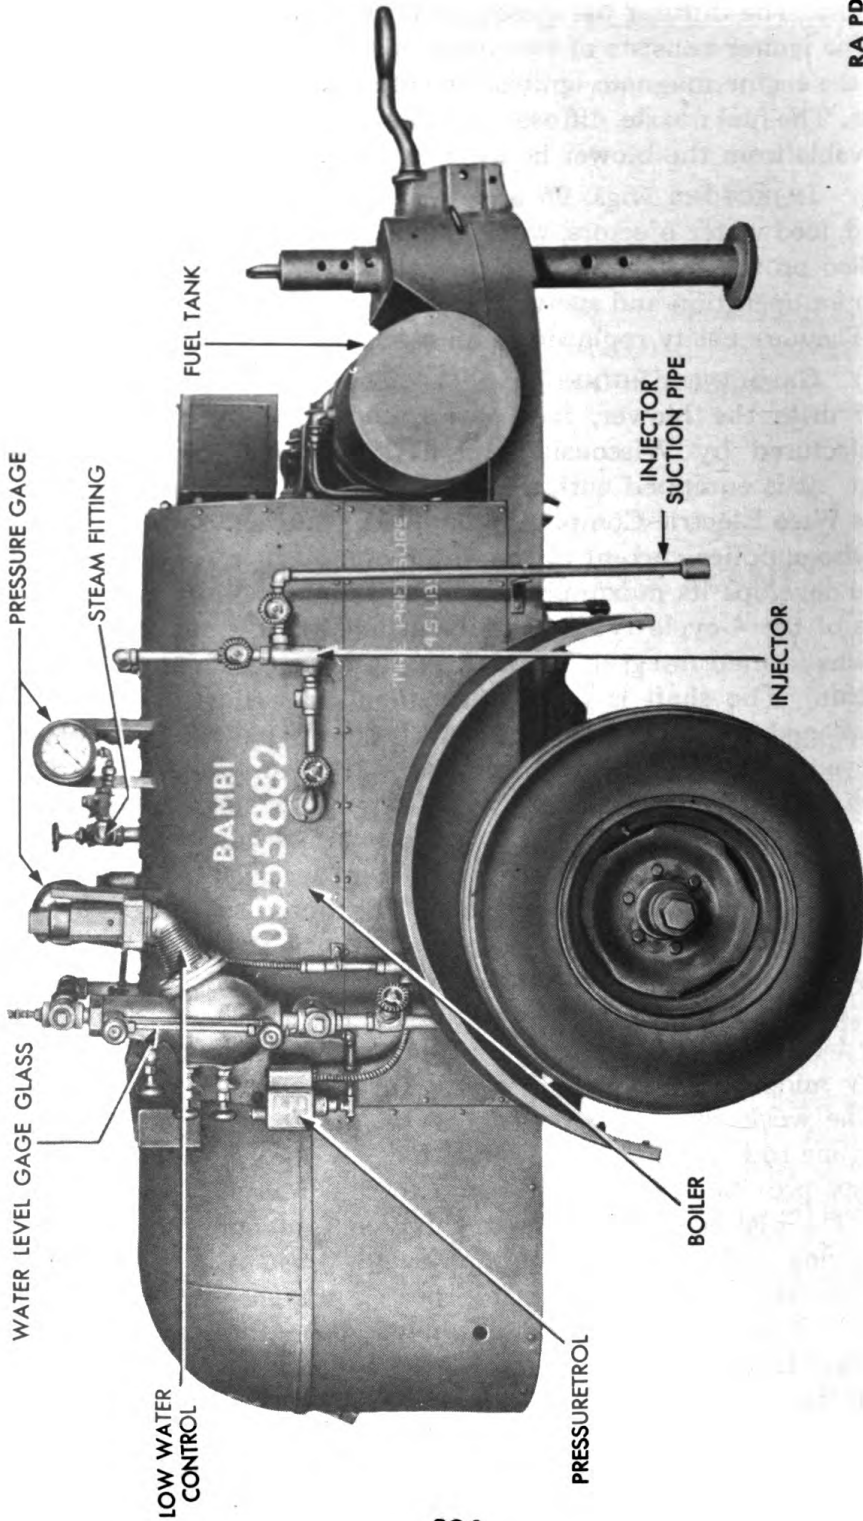
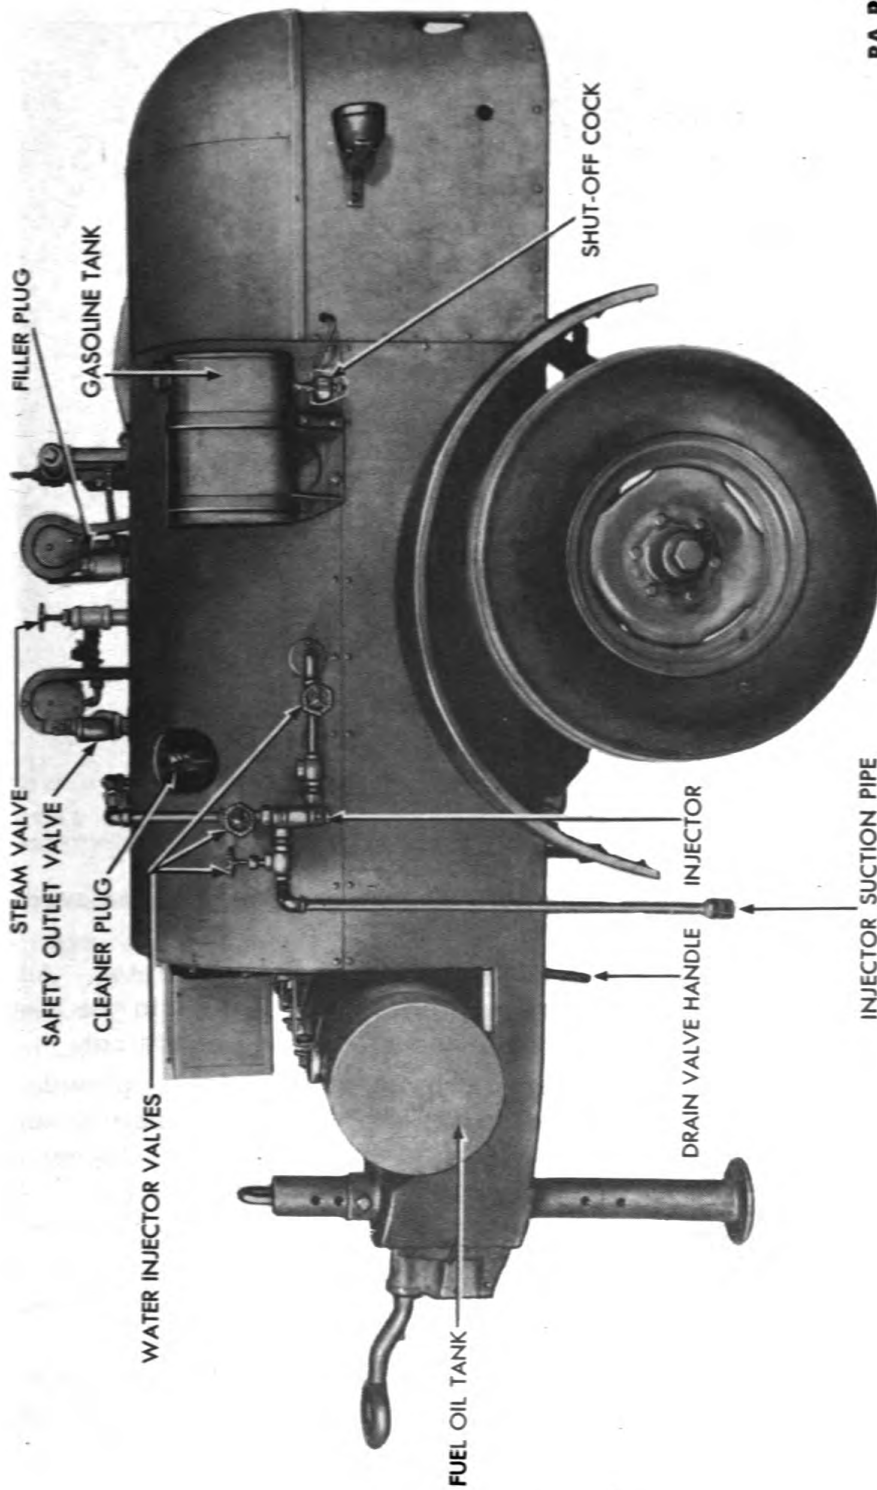

Figure 96 — Right Side of Steam Generating Plant
Figure 97 — Left Side of Steam Generating Plant
(1) **GENERAL** (figs. 96 and 97). A portable steam generating plant, type OB-1 is a part of ordnance bomb disposal company equipment. It is used to generate live steam with which to sterilize bombs. Its operation is described in the following text. This plant consists of a boiler, oil burner complete with air blower, fuel pump, dual water injectors, automatic ignition, fuel tank, tool compartment, piping, gages, engine, and control instruments. This equipment is mounted on a rubber-tired, low-center-of-gravity, two-wheeled trailer. The trailer is equipped with semielliptical springs and an adjustable steel, stiff-leg support for stationary operation. A description of the plant follows:
(4) **INJECTORS** (figs. 96 and 97). Two $\frac{1}{2}$ -inch, manually-controlled, feed water ejectors, with a complete set of control valves, are installed on the unit, one on either side. Injectors require pressure steam for operation and suction must be connected to a source of supply. They are easily replaced as an assembly.
(7) **FUEL TANK** (figs. 96 and 97). A 25-gallon fuel oil tank is installed in front of the boiler on channel members of the trailer frame. It holds enough oil for about 8 hours operation.
(8) **PRESSURETROL** (fig. 96). Burner operation is controlled by a steam pressuretrol mounted near the water column. This is adjustable to permit operation of the boiler at any desired pressure. There is a switch on the pressuretrol which closes when the steam
(9) **LOW WATER CONTROL** (fig. 96). A low water control is mounted on the right side of the boiler. It consists of a housing containing a float. The float is connected by levers to a switch which is in the generator-to-solenoid valve circuit. When the water level in the boiler gets low, the float opens the low water control switch. This closes the solenoid valve and makes it impossible for the burner to get oil until water is injected into the boiler.
(12) **SAFETY VALVE** (fig. 97). A 1-inch safety valve is installed on top of the boiler. It consists of a valve which is normally held closed by a spring. Excessive steam pressure opens the valve. If the safety valve operates, shut down the plant, then locate and repair the defective part of the pressure control system. It is adjusted to open at 100 pounds pressure. The adjustment is sealed and should not be tampered with.
(16) **DRAIN VALVE** (fig. 97). A high-pressure drain cock is located under the boiler. It has 1½-inch female fittings. A quarter turn of the handle opens it completely to drain the boiler.
(1) Level up boiler.
(2) Fill fuel oil tank on front of boiler (fig. 97). Use OIL, Diesel,
(3) Fill gasoline tank on left side of boiler (fig. 97).
(5) Vent and fill boiler through filler (fig. 97) on top of boiler until gage (fig. 96) on right side of boiler shows water slightly above "WATER LINE" mark.
(1) Open fuel tank shut-off cock (fig. 97).
(1) Connect hose of required length to steam fitting on top of boiler between pressure gages (fig. 96).
(2) Place water container filled with water in front of right-hand wheel. Drop water injector suction pipe into water (fig. 96). Keep water level above end of suction pipe at all times. *NOTE: Another suction pipe is located on left-hand side of unit and can be used in place of, or in addition to, the right-hand suction pipe (fig. 97).*
(1) Pressuretrol (fig. 96) is normally set at 90 pounds per square inch. However, steam may be used before this pressure is reached.
(2) Open steam valve on top of boiler to permit pressure needed to flow through hose (fig. 97).
(3) Watch water level as indicated by water level gage glass on right-hand side of boiler (fig. 96). Add water to boiler when level gets down to "WATER LINE," as follows: Open completely right-hand and left-hand (facing boiler) water injector valves (fig. 97). Open center valve (fig. 97) just enough to stop steam exhaust from injector. Observe water level gage. Close all three valves (center valve first) when water is about 2 inches above "WATER LINE" on gage.
(3) During cold weather, or if unit is to be idle for a considerable time, drain boiler and pipes. To drain boiler, open boiler drain valve underneath fuel oil tank (fig. 97). Be careful of live steam. To drain low water control, open valve under body of control (fig. 96). To drain pipes, remove plugs or open draincocks at low points.